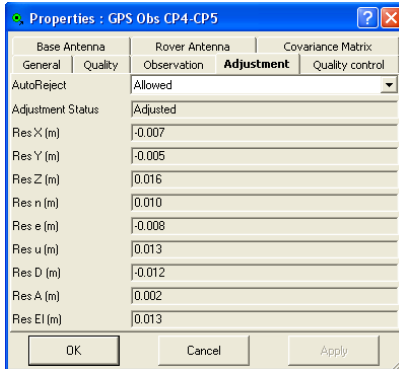

Figure 5-124. Adjustment Properties
*AutoReject* option and view the status and residuals for the observation(Figure 5-124).